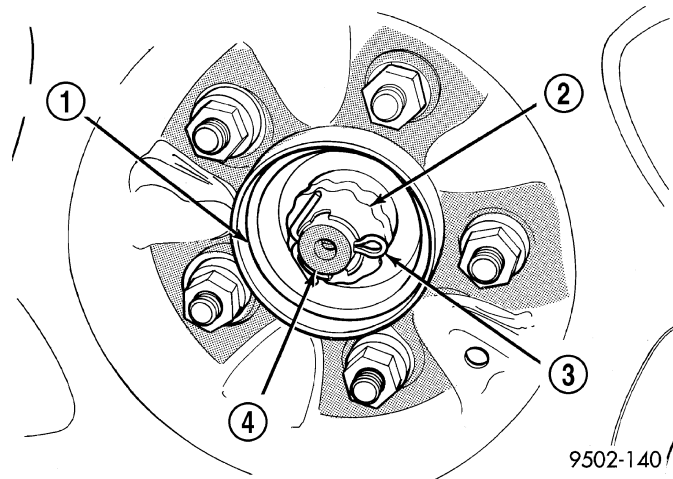

Fig. 6 Half Shaft Retaining Nut
28. Install the hub nut lock, and a **new** cotter pin. Wrap the cotter pin prongs tightly around the hub nut lock as shown in (Fig. 6).